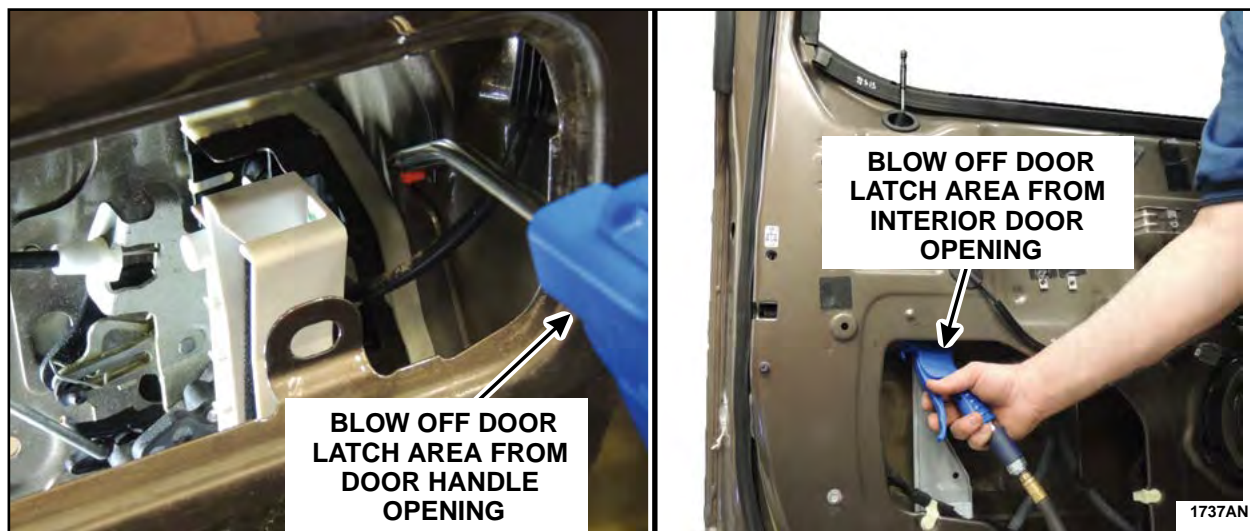

FIGURE 5
7. Using compressed air, blow out any debris or residual water from the door latch assembly, exterior door handle mechanism and cables for thirty seconds. Blow drying with compressed air for thirty seconds is critical to remove as much moisture as possible. See Figure 5.